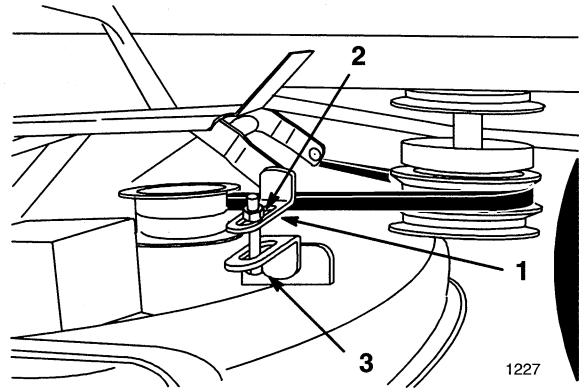

Figure 13
6. To adjust front-to-rear blade level loosen jam nut on front adjustable link. (Fig. 13).
7. Rotate the bolt on front adjustable link to change front-to-rear blade level (Fig. 13).